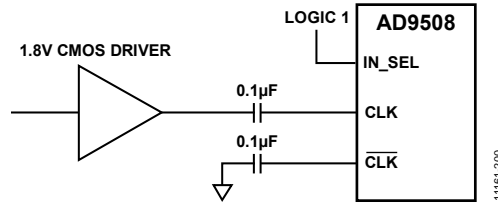

Figure 38. 1.8 V CMOS Logic Configuration for Input Clock Using Differential Mode
1.8 V CMOS logic levels are not recommended in a single-ended CMOS configuration due to V_{IH} being too close to the input threshold voltage. However, the differential input clock mode can be used for a 1.8 V CMOS input, and Figure 38 shows the recommended configuration for a 1.8 V CMOS input clock.
³ Refer to Figure 38 for configuration.